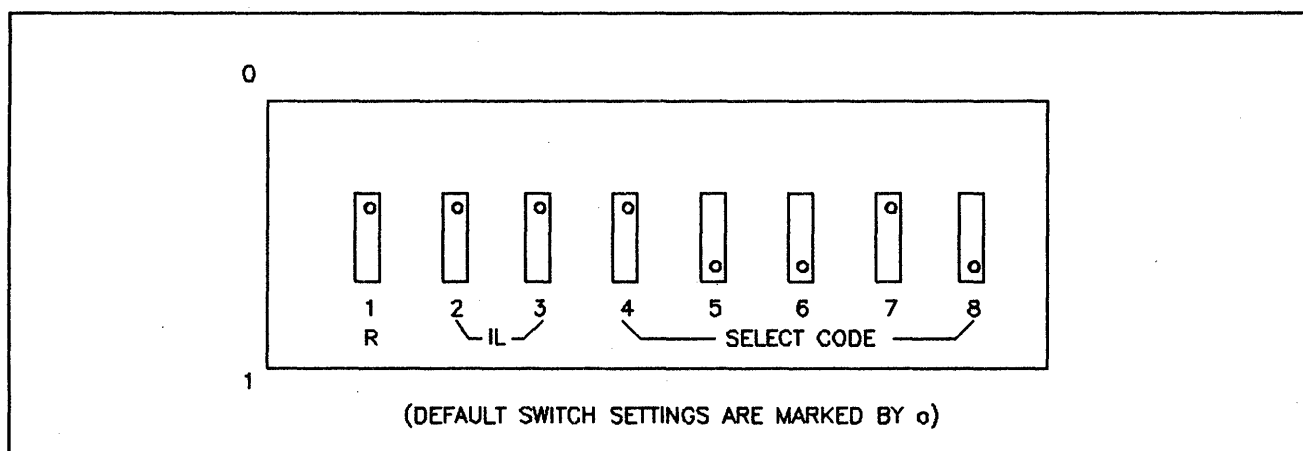

Figure 2-2. Configuration Switches
The default settings of the switches are 0 0 0 0 1 1 0 1. This is indicated in figure 2-2, which shows the switch pack configuration and the switch settings.
* See figure 2-2 for the 1 and 0 settings.